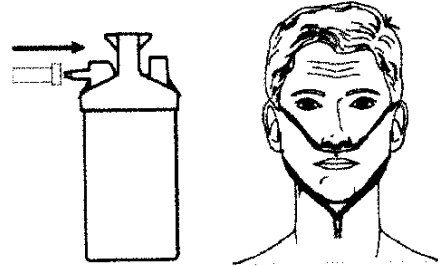

Figure 7
9.2. Connect the nasal oxygen canula to the humidifier outlet nozzle or to the concentrator outlet if a humidifier has not been prescribed. Then set the nasal oxygen cannula over patient's ears, insert the nasal oxygen cannula into patient's nostrils to absorb oxygen; The nasal oxygen canula should be limited to 20 meters long, in order to ensure that the oxygen flow rate remains within specification values. The best absorbing time for health care keeps 40-50 minutes per time, absorbing time for medical treatment shall be followed doctor's advice, as shown in Figure 7.